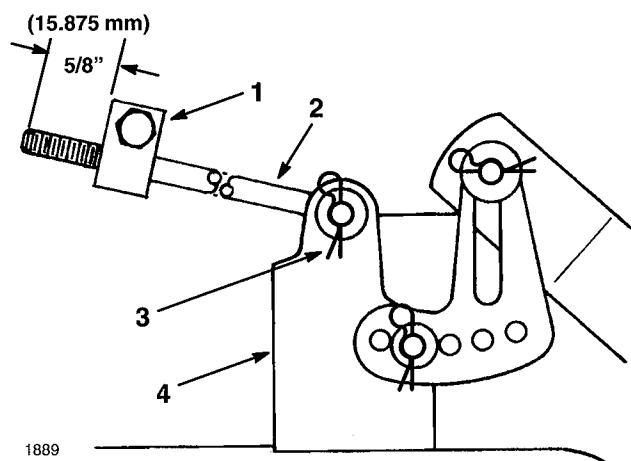

Figure 51
3. Measure the length of the rod extending out the front of the adjusting block on the sides of the chassis (Fig. 51). If the rod length is not $5/8$ " (15.875 mm), remove the hair pin cotter and washer from the end of the rod (Fig. 51), and turn the rod until the $5/8$ " (15.875 mm) dimension is obtained. Then install the end of the rod into the hole in the mower mount and secure in place with washer and hair pin cotter. Repeat this procedure on the opposite side of the mower.